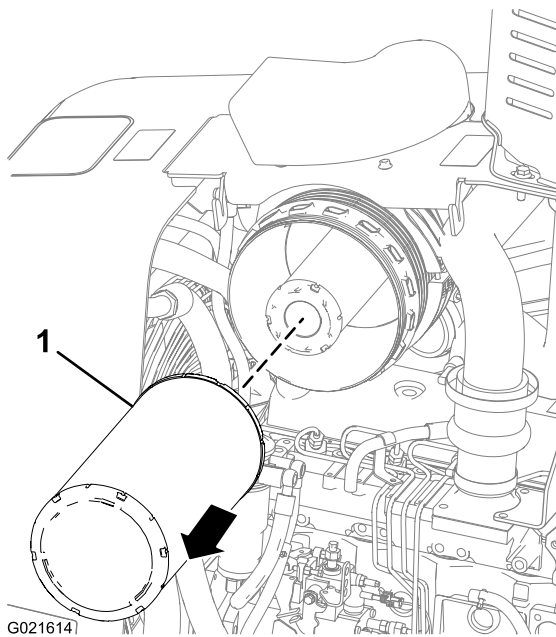

Figure 48
2. Pull the primary air-cleaner element outward and remove it from the air-cleaner housing (Figure 48).
6. Insert the new primary air-cleaner element into the air-cleaner housing (Figure 48).